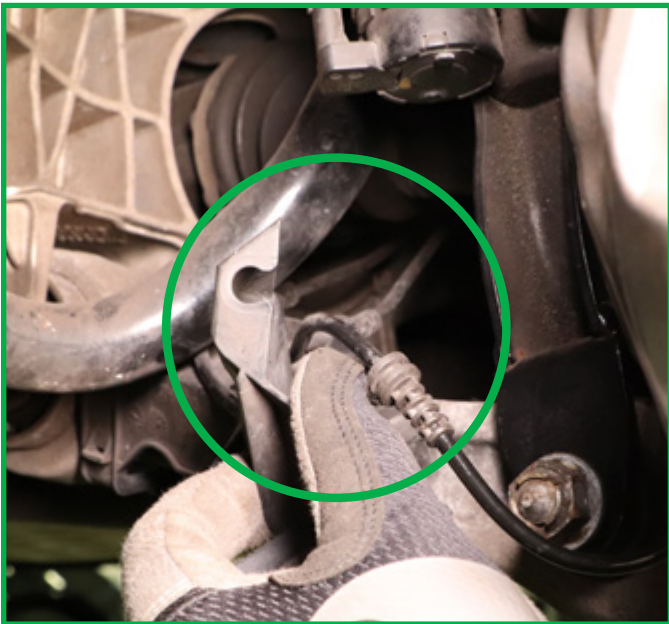

FIGURE 8
7. Unroute the lines and disconnect the strut wire harness from the lower mount of the strut. (Figures 8, 9)